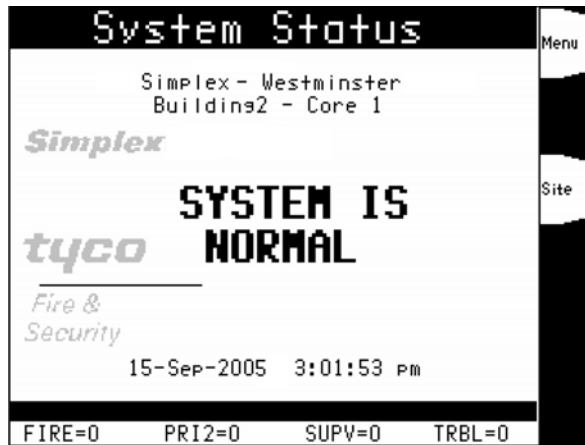
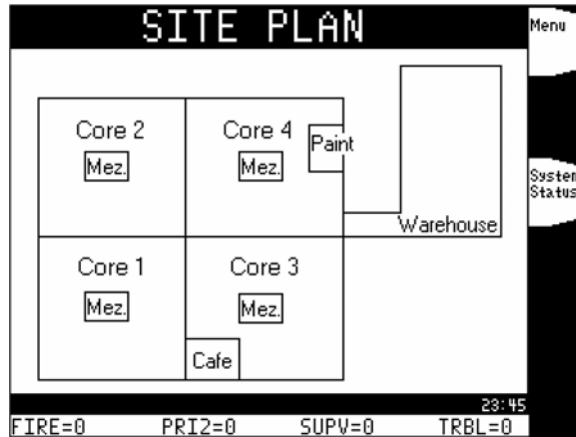

Figure 1-2. Normal Operation Text Screen
Figure 1-3. Normal Operation Sitemap Screen
- The multi-line LCD shows either a text screen indicating normal operation (see Figure 1-2) or a sitemap (see Figure 1-3).